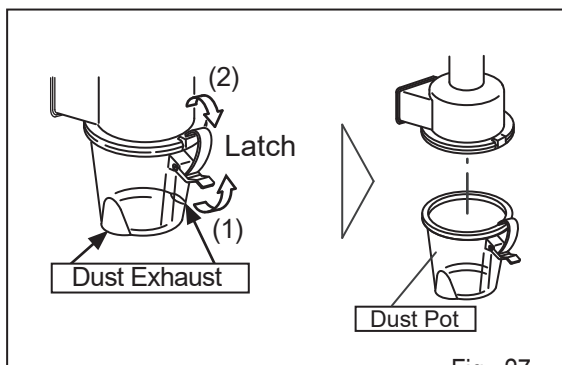

Fig. 27
- Latch off to remove Dust Pot. (Fig. 27)